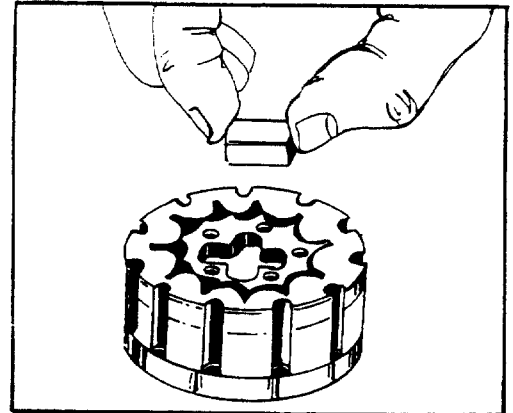

FIGURE 56.
12. Apply a small amount of clean grease to spacer (23) and insert it into the drive slot in the rotor (24). See figure 56. The grease will aid in retaining the spacer during other assembly procedures.